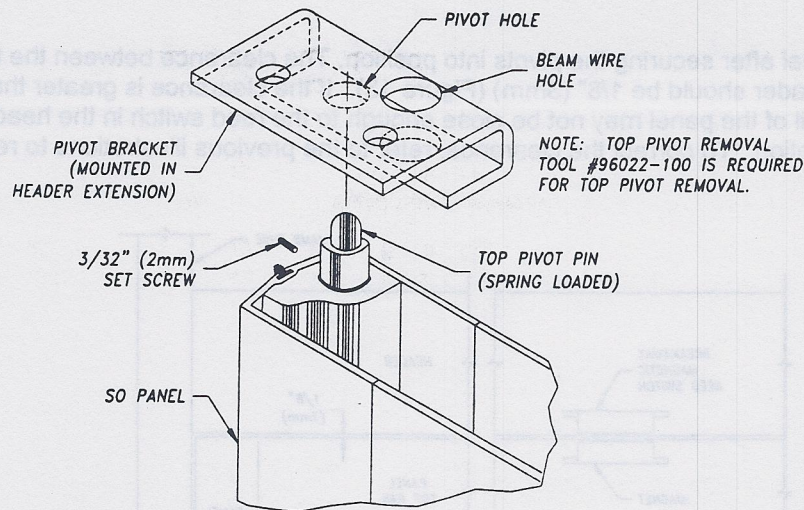

FIGURE 10: Panel Top Pivot Detail
1. Remove panels from carton. Lift panel and place bottom pivot block (factory prepped and installed in bottom panel stile) onto bottom pivot. Swing and proceed to install top pivot pin into pivot bracket mounted in header extension (Figure 10).